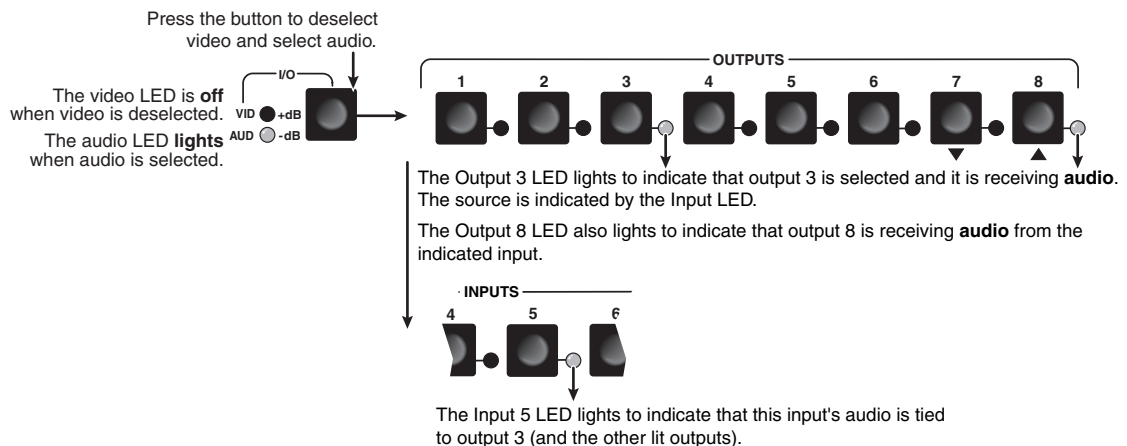

Figure 3-25 — Deselect video to view audio ties only
4. Press and release the I/O button (figure 3-25).